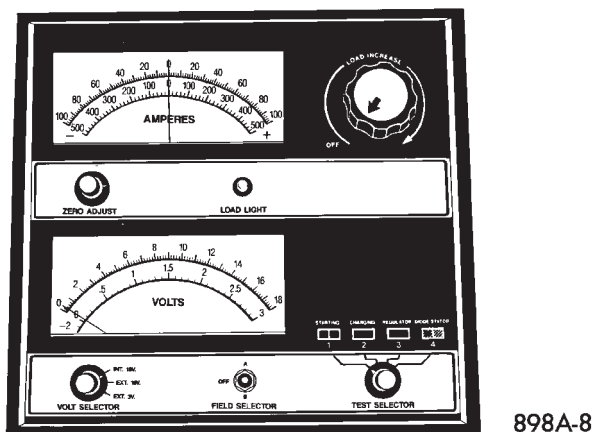
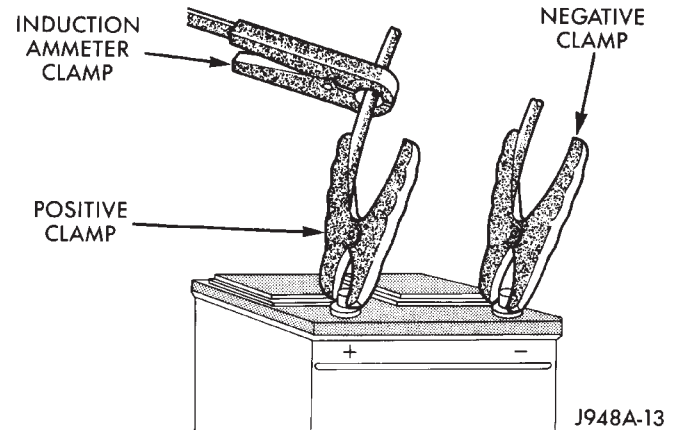

Fig. 6 Volt-Ammeter-Load Tester - Typical
Fig. 7 Volt-Ammeter-Load Tester Connections - Typical
(1) Disconnect and isolate both battery cables, negative cable first. The battery top and posts should be clean.
(2) Connect a suitable volt-ammeter-load tester (Fig. 6) to the battery posts (Fig. 7). See the instructions provided by the manufacturer of the tester you are using. Check the open-circuit voltage (no load) of the battery. Refer to **Open-Circuit Voltage Test** in the Diagnosis and Testing section of this group for the test procedures. The battery open-circuit voltage must be 12.4 volts or greater.